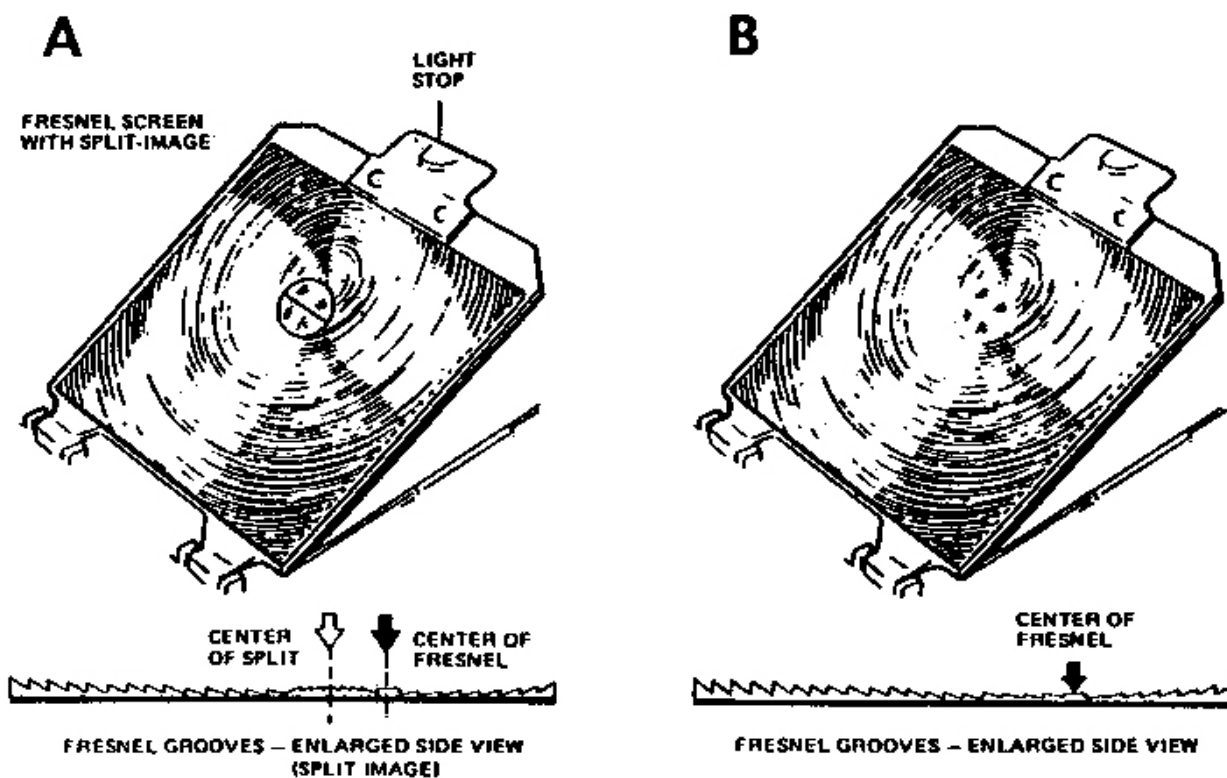

Figure 2-3 Fresnel screen
1. Fresnel (Figures 2-3 A and 2-3 B)
The screen itself is a sheet of plastic upon which are impressed series of concentric rings much like the grooves pressed into a phonograph record (Figure 2-3) instead of having a vee shaping; however, the grooves in the Fresnel screen form a saw-tooth with a tooth angle increasing slightly with each successive groove in such a manner as to complement the decreasing angle of the light ray. The saw-tooth flattens out completely at the exact optical center of the screen. In the SX-70 camera, the optical center is not the geometrical center of the screen.
As shown in Figures 2-3 A and 2-3 B, two types of Fresnel screens are used. Current types (Figure 2-3 A) have a split-image circle cut into the center of the screen which makes focusing easier. Specially oriented prisms within the circle split the image unless the camera is perfectly focused. Therefore, a straight vertical line in the image area would appear to be broken unless the subject is in focus. To further ease focusing, the image within the split circle appears brighter than the rest of the Fresnel image. This is possible because the split circle is not coated in the same manner as the rest of the Fresnel. This latter feature improves the ability of the viewer to focus the camera in dimly lit areas.